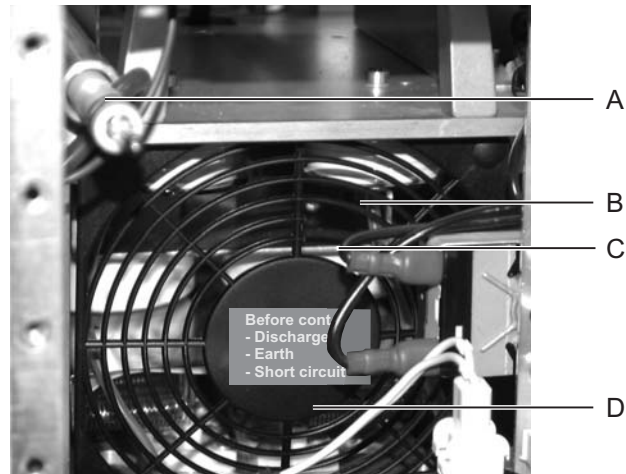

Figure 39: Safety stick and discharge connector
9. To discharge the capacitors, pull the capacitor grounding stick (safety stick) out of the mounting (see Figure 39 on page 121), lead it through the protection grill and plug its metallic side into the discharge connector (see Figure 40).
Key to Figure 39: